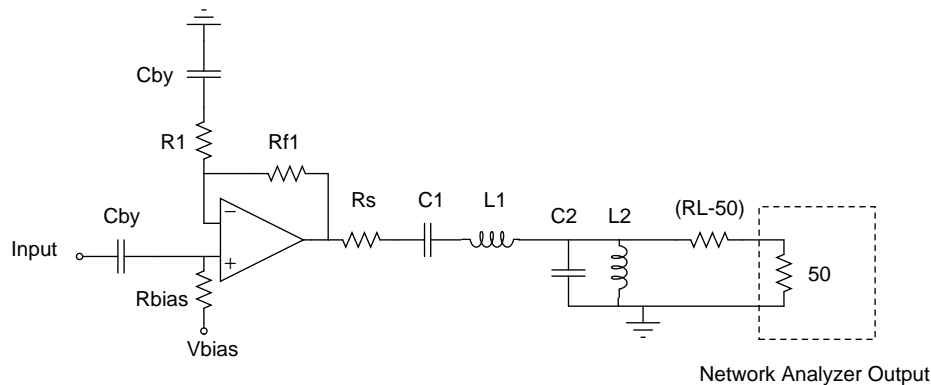

Figure 4: Adding your first stage behind the filter
- **DC Biasing:** Since you will be operating the op-amps with a single $+9V$ rail, you will use your $4.5V$ reference as 'ground'. This means all signals coming into and out of the IF amp will need to be re-biased at $4.5V$. For this reason, be sure to use a coupling cap and bias resistor at the input of the op-amp (See Figure 4) as well as a BFC at the output of the filter (to protect test